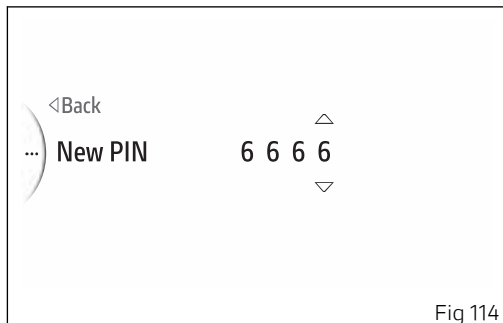

Fig 114
- The 2 arrows above and below the digit indicate that the number can be changed from 0 to 9 using buttons (1) and (2).
- Press ENTER (3) to confirm and move on to the following digit.
- Repeat the procedure until entering all 4 digits (Fig 114).
- Press ENTER (3) to confirm the digit and move on to the following one.